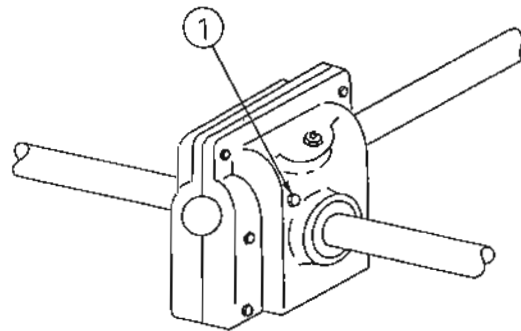

FIGURE 1
1. **GEARBOX:** Check the oil level in the worm gear drive every month. If necessary, add AGMA 5EP, or SAE 90 gear oil. Make sure oil level is up to side plug (fig.1, item 1).